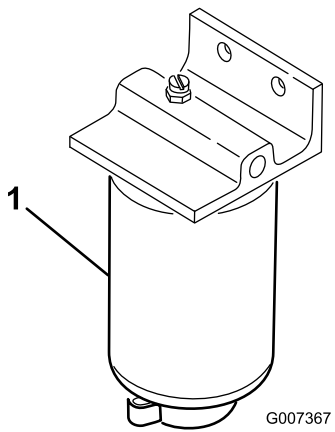

Figure 37
1. Place a clean container under the fuel filter (Figure 37).